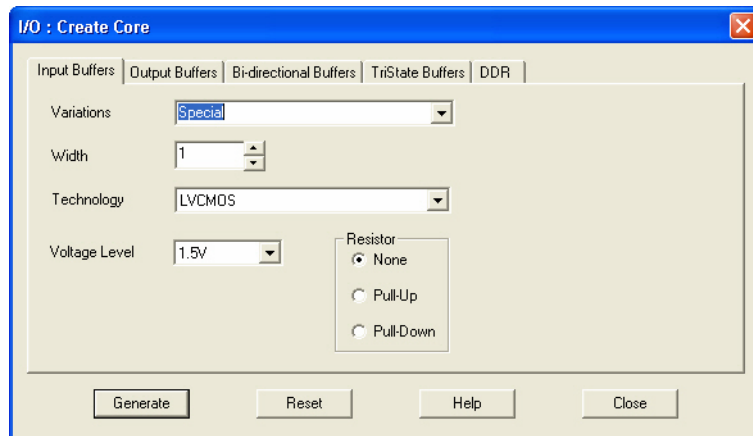

Figure 10-3 • I/O Create Core Window
3. Double-click I/O to open the Create Core window, which is shown in Figure 10-3).
As seen in Figure 10-3, there are five tabs to configure the I/O macro: Input Buffers, Output Buffers, Bidirectional Buffers, Tristate Buffers, and DDR.
The **Special** variation has Width, Technology, Voltage Level, and Resistor Pull-Up/-Down options (see Figure 10-3). All the I/O standards and supply voltages (V_{CCI}) supported for the device family are available for selection.